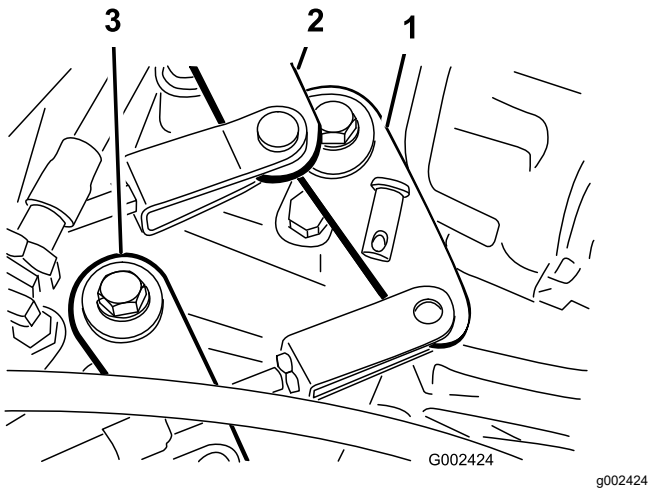

Figure 53
2. Remove the clevis pins securing the shift cables to the transaxle-shift arms (Figure 53).
1. Remove the clevis pin securing the High–Low cable to the transaxle (Figure 53).